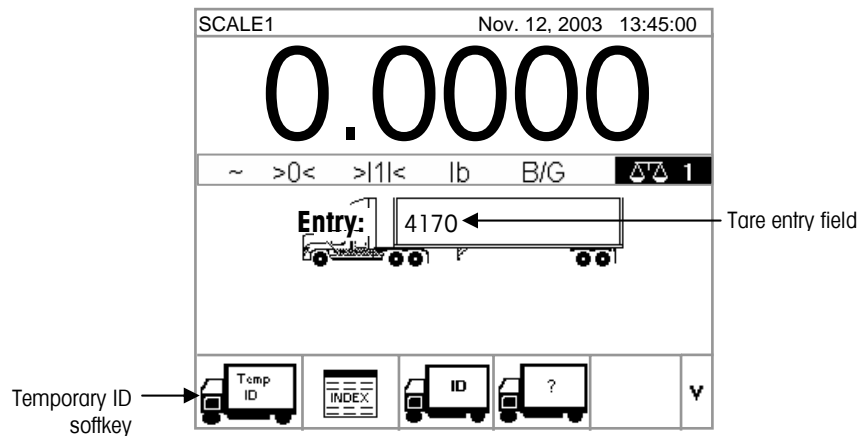

Figure 2-9: Default Weight Screen
1. From the default weight screen (Figure 2-9), use the numeric keypad to enter the tare value in the tare entry field **BEFORE** pressing the TEMPORARY ID softkey.